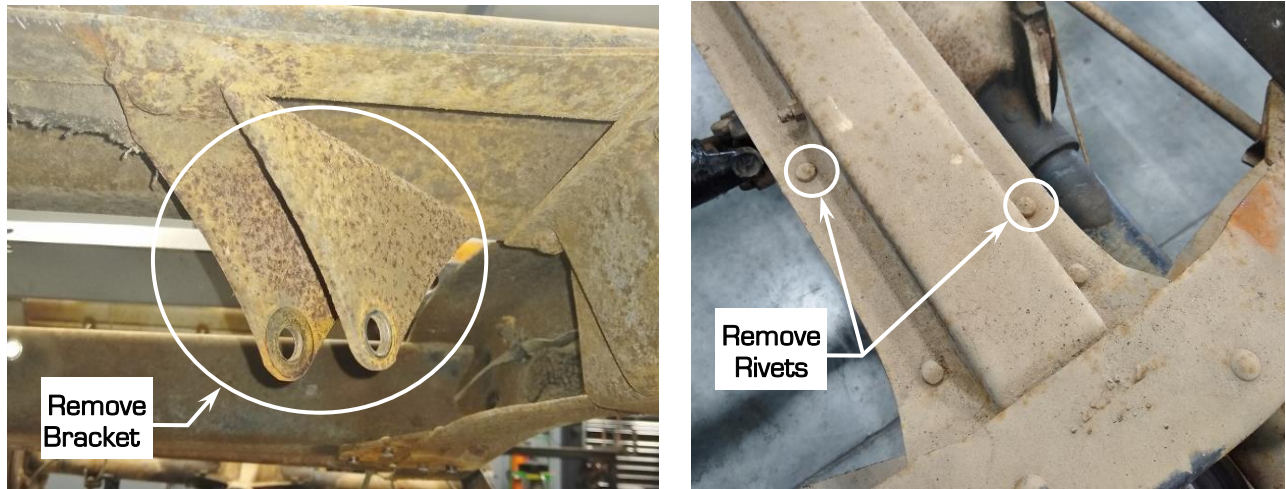

Figure 2 – Remove Rear Axle Bump Stop Bracket
- Remove the upper shock mounts from the cross member by removing the two rivets holding the brackets in place on both sides of the cross member (Figure 2). **NOTE:** DSE recommends cutting the rivet from the top side.